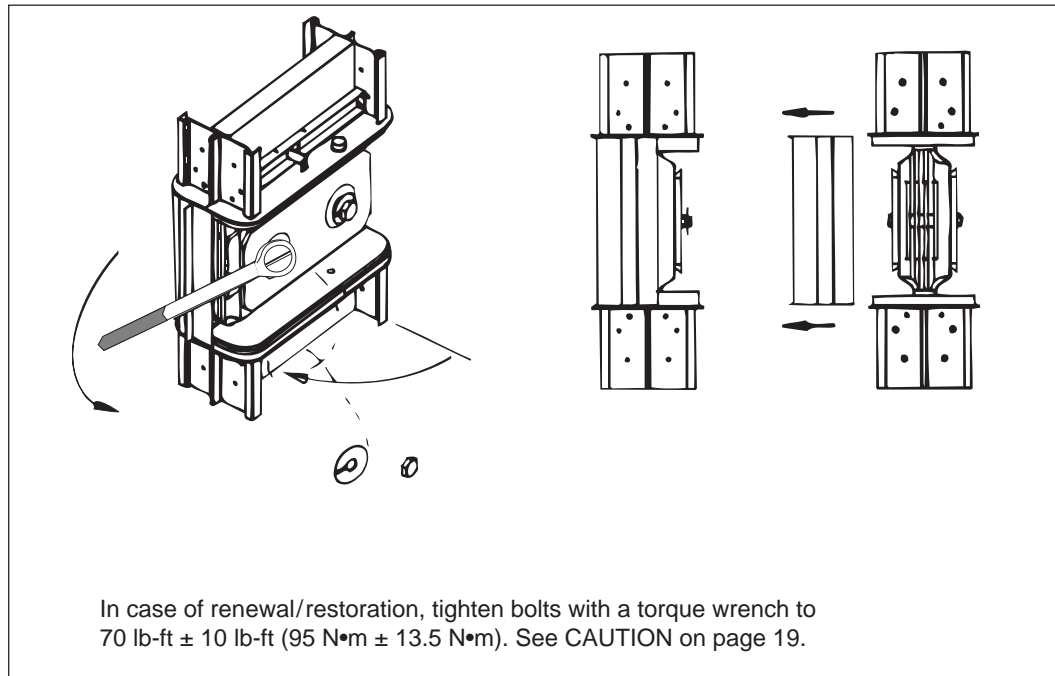

Figure 21
3. Tighten busway joint bolts (figure 21).